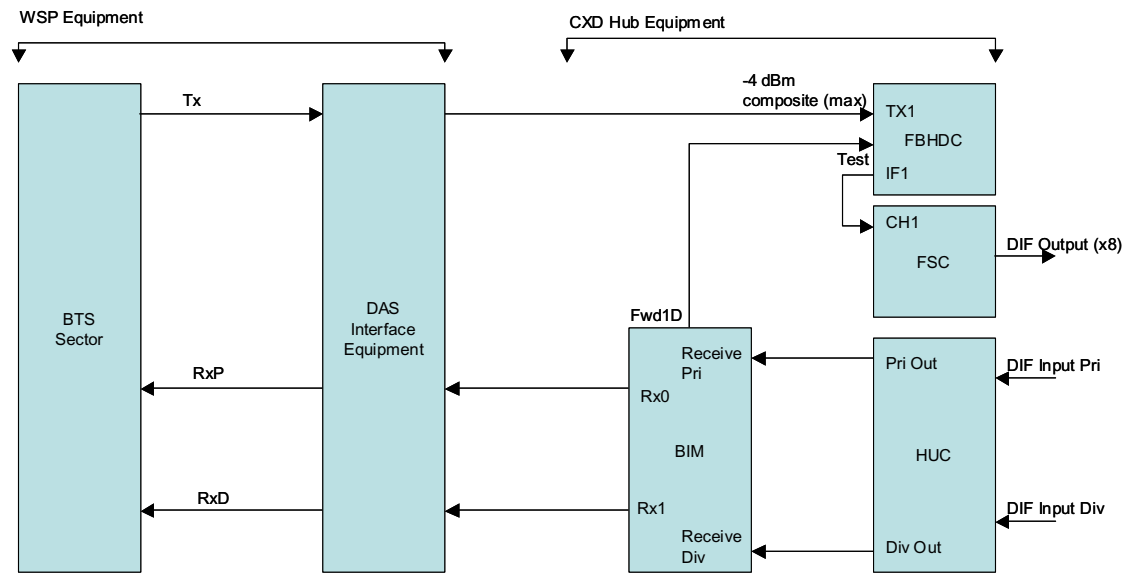

Figure 2-25. Direct Cable Configuration
2. Direct Cable – Forward path bypasses, reverse path still used (see Figure 2-25).